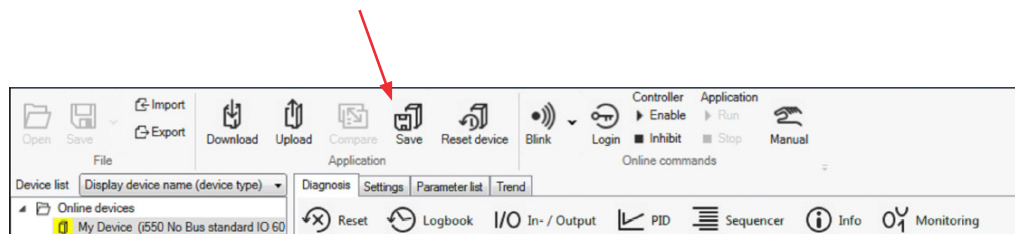

Figure 5.3. Location of the Save button.
- d. Click the **Save** button in the Lenze EASY Starter software located in the top ribbon bar (Figure 5.3).